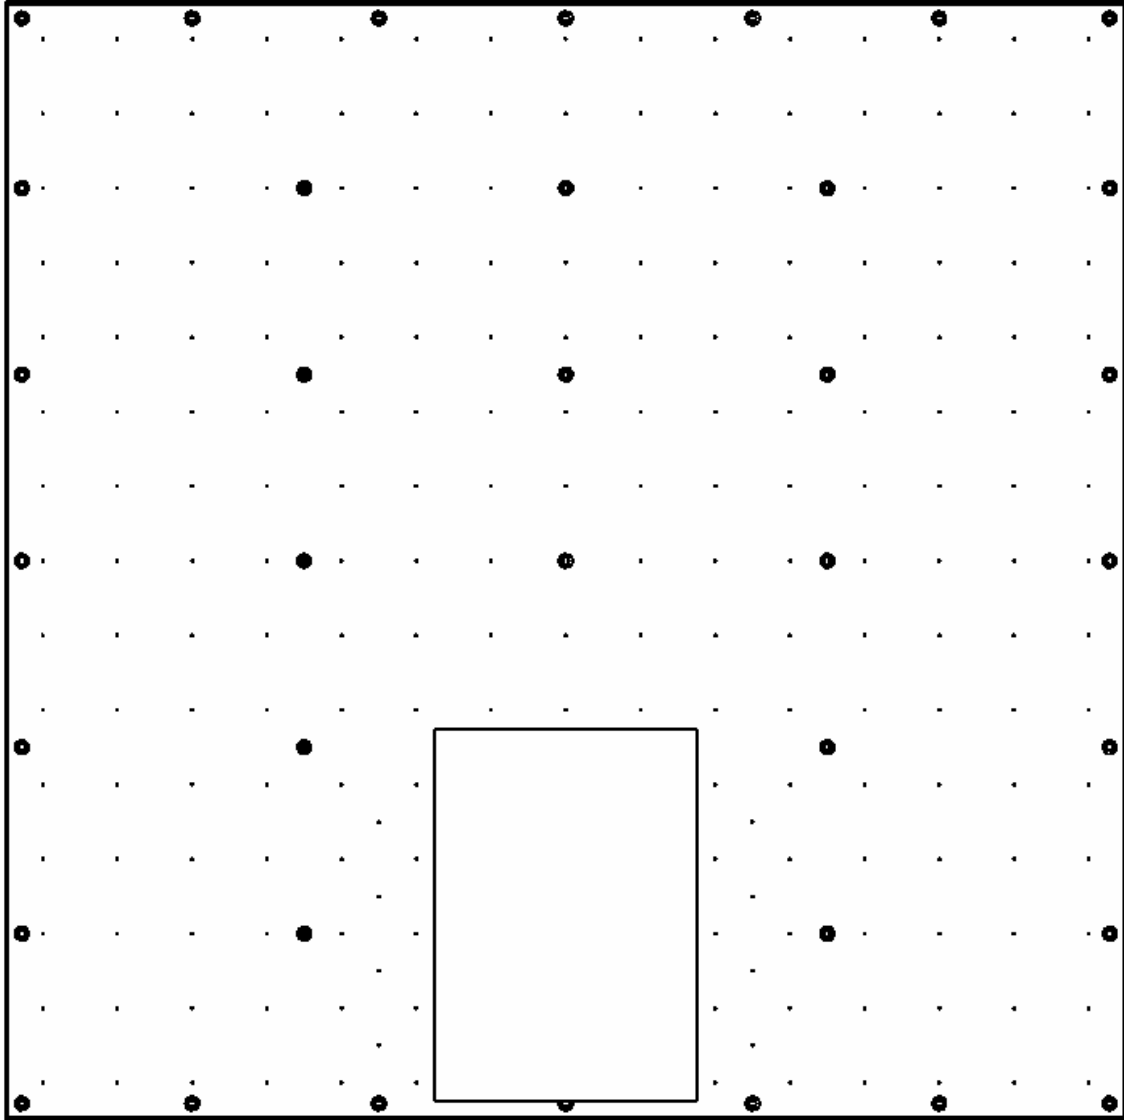

Figure 2b
2. Float a lite of glass on to the table and position it. **Figure 2b**